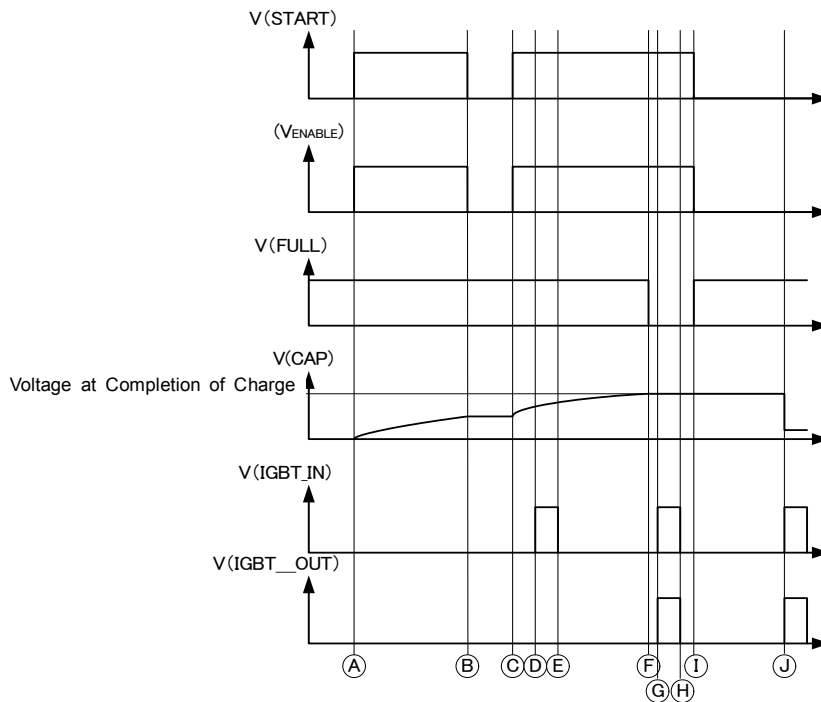

Fig 31. Timing Chart 1: Overall Operation
In this IC, a charging operation starts when the START pin is set to "H" (See Time ① and ③ in Fig 31.). In order to maintain the charging operation, the START pin must be set to "H". (See Time ① to ③, ⑤ to ⑧ in Fig 31.) If any of the conditions ① to ③ are satisfied, the charging operation stops.
- ① The START pin is set to "L".
- ② Charging is completed. The VC pin voltage reaches the specified voltage. (See Time ⑥ in Fig 31.)
To re-charge, set the START pin to "L", and the FULL pin is changed from "L" to "H". Also, if the CHARGE_ON pin is changed from "L" to "H" again, the charging operation re-starts. (See Time ③ in Fig 31.)
Set the IGBT_IN pin to "H" when the IGBT driver satisfies the following 4 conditions. The "H" signal is output to the IGBT_OUT pin. (See Time ⑤ and ⑩ in Fig 31.)
- ① The VCC voltage is the UVLO release voltage or more.
- ② The FULL pin is set at "L".
- ③ Even if the IGBT_IN pin is set to "H" while the START pin is set to "H", the IGBT_OUT pin remains at "L" and no light flashes.